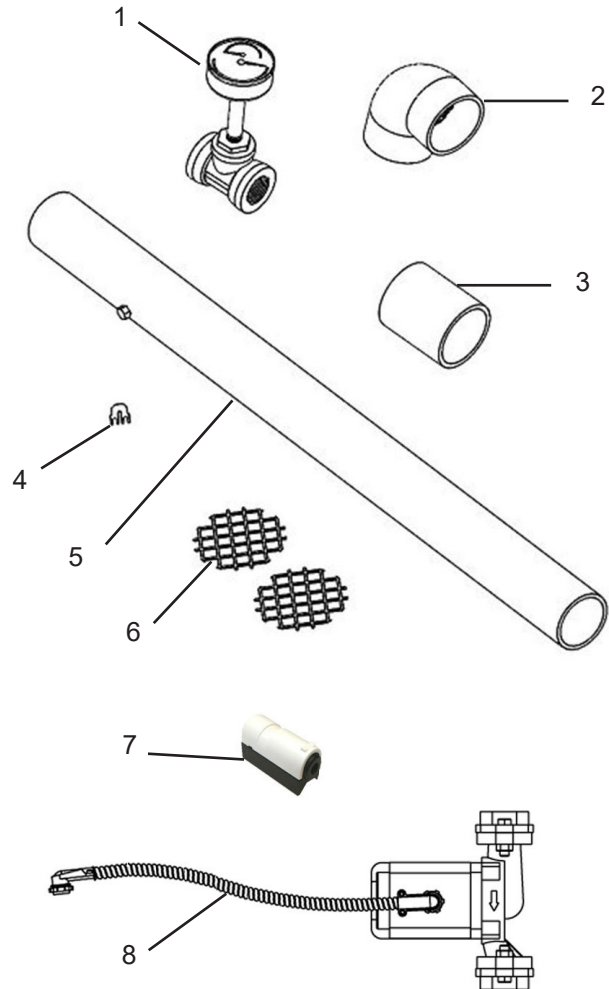

Figure 3. - Contents of Installation Kit
This residential unit is shipped in a single crate with a boxed installation kit that contains these components. (See Figure 3)
2. Check the contents of the box (the Installation Kit) to the items shown in Figure 3.